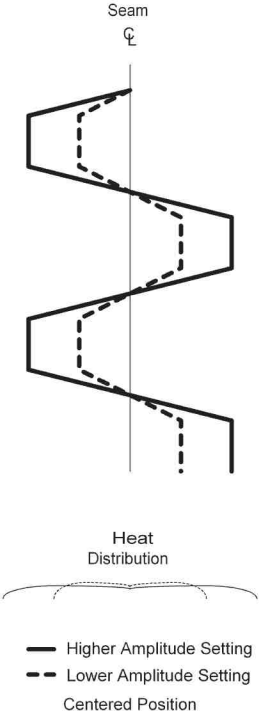

FIGURE 15 - AMPLITUDE SETTINGS
The Amplitude dial adjusts the gauss strength of the magnetic field, see Figure 15 - Amplitude Settings on page 16. The effect of the magnetic field on the deflection of the arc is related to the length of the arc, the type of material being welded, the joint configuration, and the welding process being used. The proximity of the probe tip to the arc also greatly influences the degree to which the magnetic field will deflect the arc. The optimum amplitude control setting in a given application can span a relatively broad range. It is best to utilize the lowest amplitude setting possible, as high gauss strength can result in arc instability.
- Now, turn the Amplitude control clockwise to approximately mid-range of its settings ("500" on the dial). The arc will now deflect left to right. The Figure 15 - Amplitude Settings on page 16 illustrate the function of the Amplitude control.